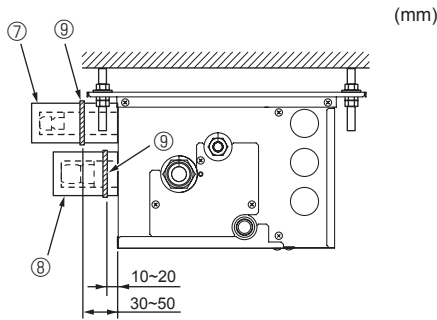

Fig. 7-5
- Ⓕ Band ⑨
- Ⓖ Pipe covers ③ ④ ⑤ ⑥
► Use the following procedures for indoor connection part which indoor unit is not connected. (Fig. 7-5)
- (1) In order to prevent refrigerant leaks, make sure that the flare nuts are tightened according to the specified torques\* in Table 3.